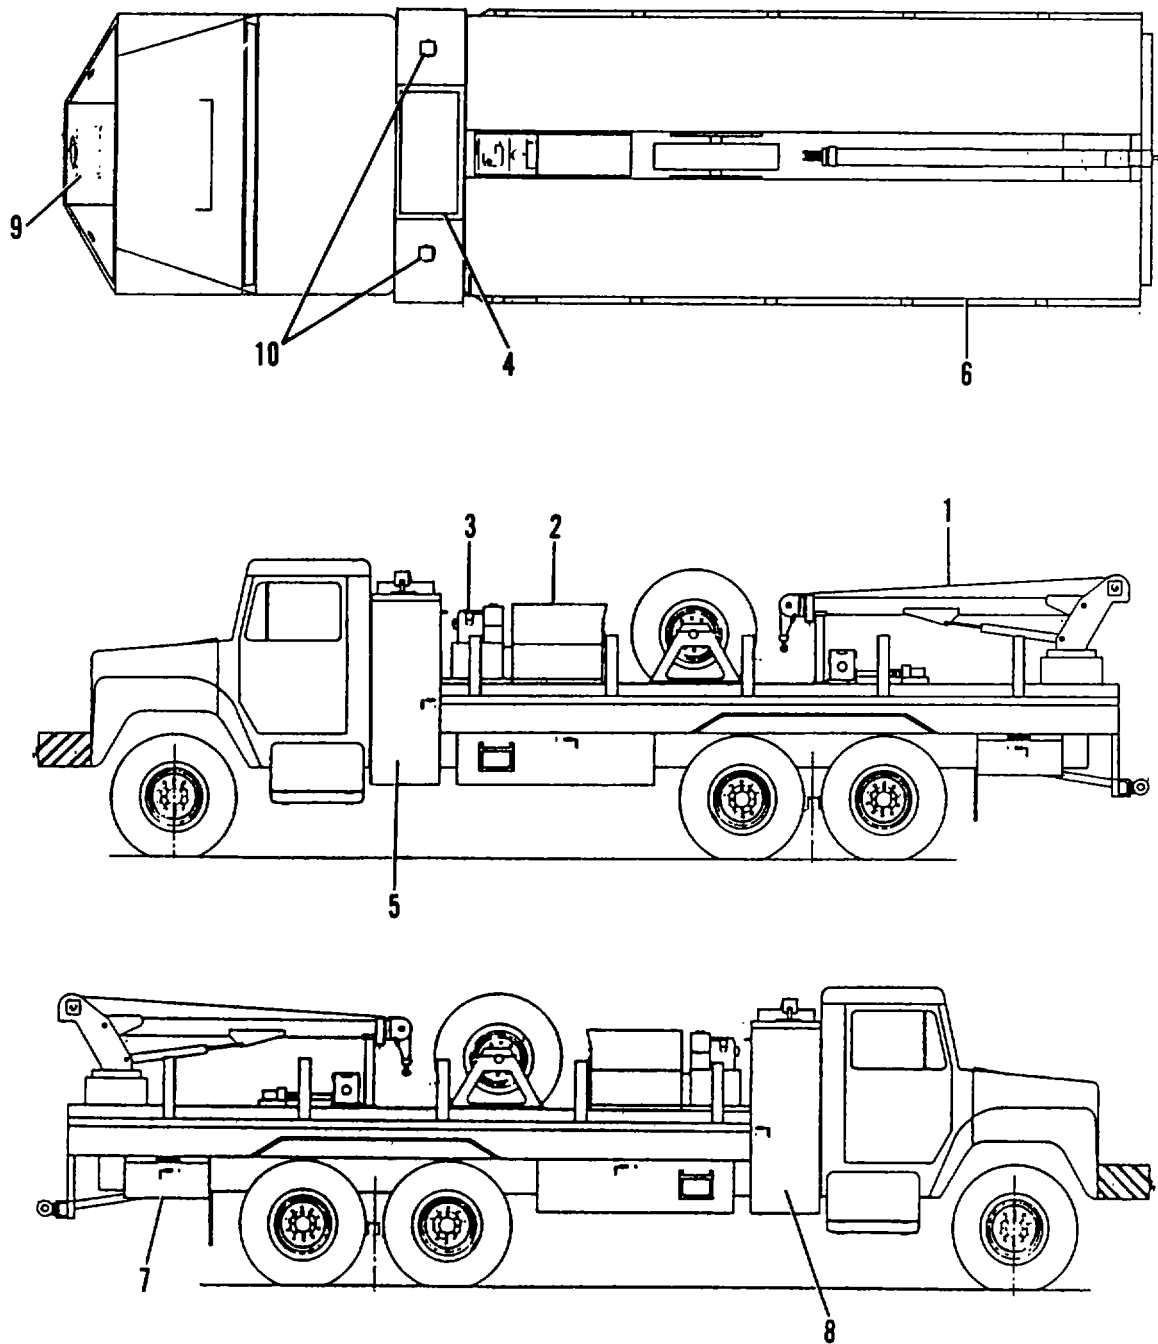

Figure 1-5. Rig Tender Major Components
- (1) Crane (1, Figure 1-5). Provides backup well servicing capability, as well as tool and casing handling support. Located at the rear center of the waterbed, the crane turret and boom assembly rotate continuously in any direction. Crane operation is by remote pendant control stored in the base of the crane. Hydraulic and electrical power is controlled from a panel inside the truck cab.
- (2) Welder and Generator (2, Figure 1-5). Self-contained unit mounted at the top, front center of the waterbed. The unit is used as an alternating current (ac) or direct current (dc) welder and as a power plant for supplying auxiliary power.
- (3) Welder Engine (3, Figure 1-5). Provides power for welder/generator unit. It is an air-cooled, single cylinder, electrically started 14-horsepower diesel engine.
- (4) Fuel Transfer System (4, Figure 1-5). Consists of an auxiliary fuel tank, fuel transfer pump, hose, and fuel nozzle. Electrical power to operate the pump is controlled from inside the truck cab. Fuel flow is controlled at the nozzle.
- (5) Water Heater (5, Figure 1-5). Consists of integrated open-loop water heating manifold. Contains liquid propane (LP) gas heating torch, hose, pre-set regulator, manifold mounting bracket, and LP tank. Manifold also provides in-transit storage for water pump hoses.
- (6) Waterbed (6, Figure 1-5). Provides water storage for rotary well drilling operations. Water level is indicated by magnetically operated water level gauge. Filling and discharging operations are by rotary reversible water pump.
- (7) Water Pump (7, Figure 1-5). Provides ability to move water into or out of the waterbed, or from one external water source to another without going through the waterbed. The pump is a hydraulically driven unit, mounted in the rear curbside tool box. Hydraulic power is controlled from inside the truck cab. Pump is engaged and disengaged by an air-shift control located at the pump.
- (8) Hydraulic Reservoir (8, Figure 1-5). Holds fluid that hydraulically drives either the water pump or the front winch. Air-shifted controls operate the tank-mounted valves that direct the flow of fluid.
- (9) Winch (9, Figure 1-5). Hydraulically driven, 20, 000-pound capacity unit mounted on front of truck. Operated from inside the truck cab by an airshift control. Used for pulling drilling rig or rig tender.
- (10) Night Lighting (10, Figure 1-5). Consists of two floodlights mounted on vertical cabinets behind the truck cab. Electrical power ON/OFF switches are inside the truck cab.